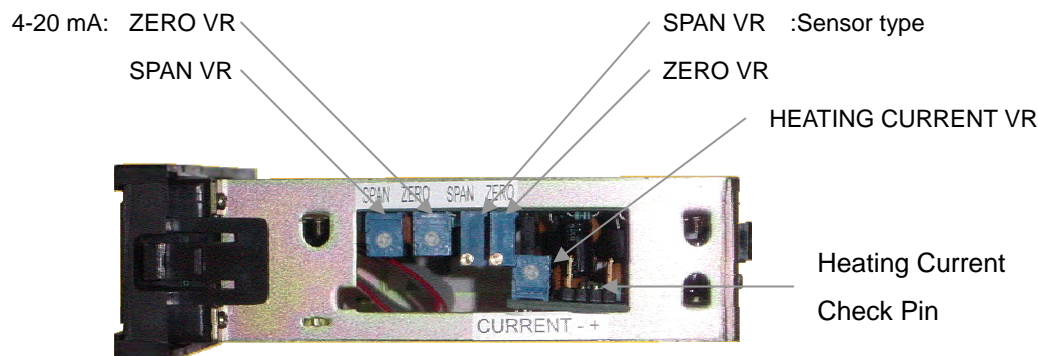

Fig. 7.1 The calibration of HEATING CURRENT and ZERO/SPAN
- 1) You may confirm the sensor current of connected detector. (Refer to Fig. 7.1)